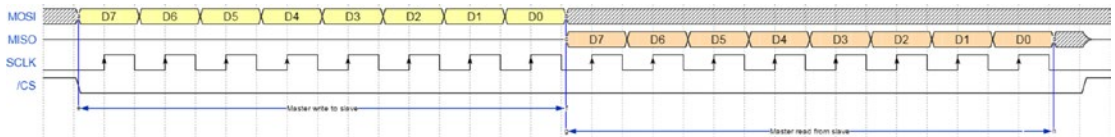

Figure 14-5. SPI write and read byte timing
3. User can start a transfer/receive and end a transfer/receive by controlling the CS (see Figure 14-5).
4. Each time user provides an 8-bit piece of data to send to or receive from the slave (see Figure 14-5).